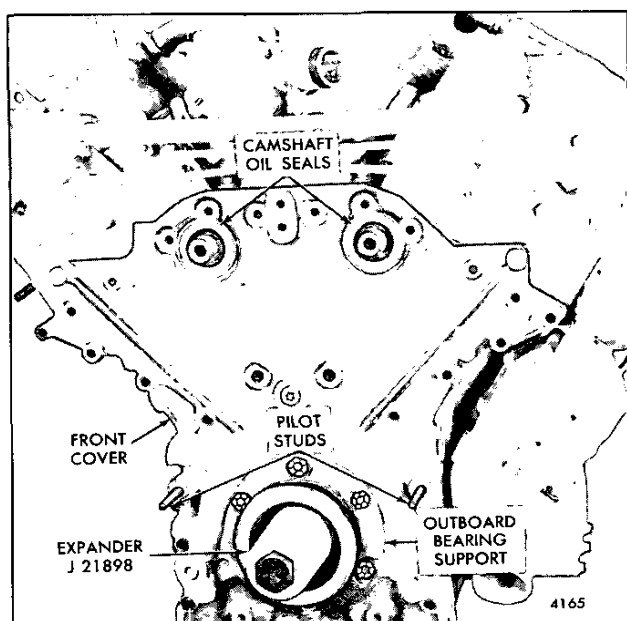

Fig. 4 – Installing Engine Front Cover – 8V–Engine
3. Install two pilot studs (Fig. 4) into diametrically opposite bolt holes in the cylinder block to guide the engine front cover in place.
- a. Install oil seal expander J 21898 (Fig. 4) over the end of the crankshaft. Then apply a light coat of cup grease to the lip of the oil seal and install the outboard bearing support over the oil seal expander and against the engine front cover. Remove the seal expander.